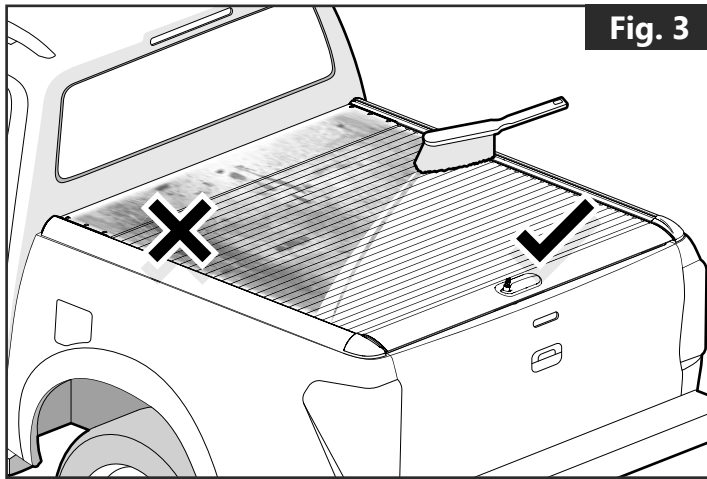

Fig. 3
- If the Roll cover is closed and has water, snow, ice or dirt on the cover, it might enter into the bed as the cover retracts. To avoid this, clean off the top surface of the cover prior to opening. **(Fig. 3)**